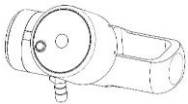

Figure 3. Critical Alert Universal Installed on a Post Valve Regulator
- While holding the base of the gauge, pull the upper housing up away from the held point to expose the battery board. (Refer to Figure 3)